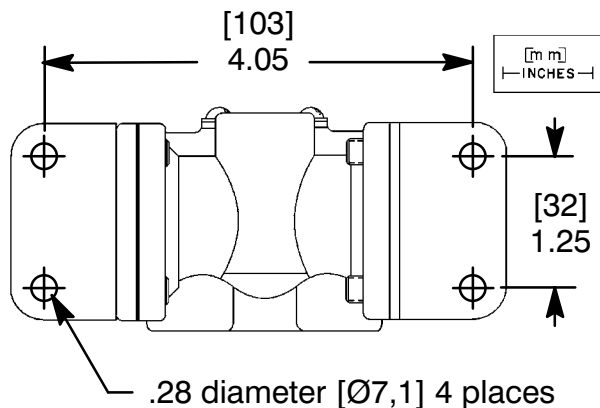
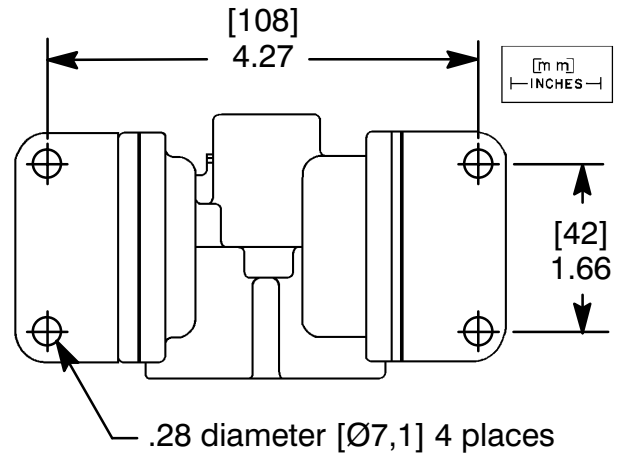

Figure 3. Mounting dimensions – $5/16''$ Orifice
Figure 4. Mounting dimensions – $5/8''$ Orifice
Mounting brackets (2) are optional. For valves with a $5/16''$ orifice, $1/4''$ or $3/8''$ NPT refer to Figure 3; for $5/8''$ orifice, $3/8''$ or $1/2''$ NPT Figure 4. Check nameplate to determine orifice size and pipe size.